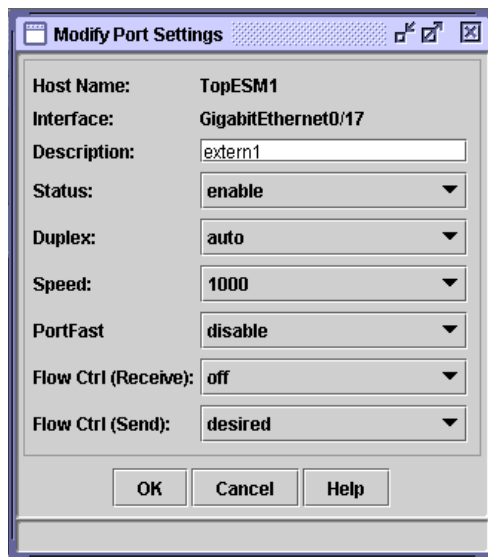

Figure 5-20 Port pop-up menu: Modify Port Settings
- ▶ Port Settings (Figure 5-20)